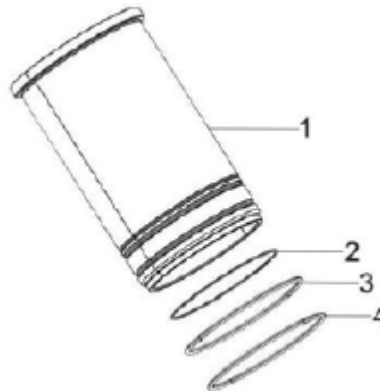

Figure 101.
1. Equip the liner with new seals (Figure 101) coated with grease or clean oil.